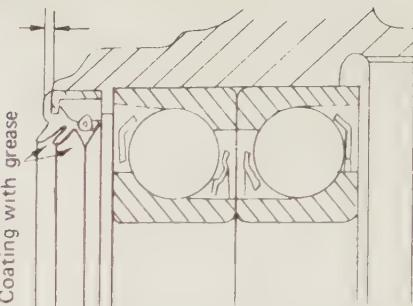

Fig. 11.10. Fitting the outer oil seal (FF - 1)
- 12 Press the outer oil seal into the knuckle so that it protrudes approximately 1 mm (0.04 in) from the knuckle end surface, see Fig. 11.10.